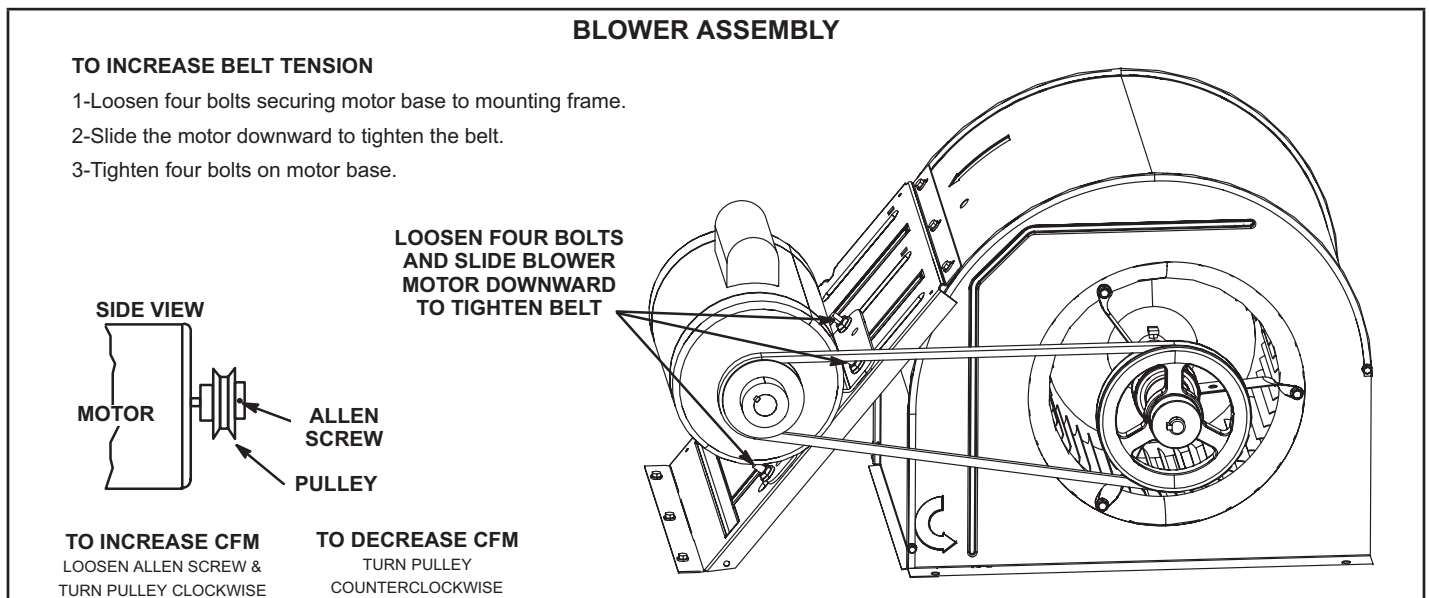

FIGURE 7
- 4 - The blower RPM can be adjusted at the motor pulley. Loosen Allen screw and turn adjustable pulley clockwise to increase CFM. Turn counterclockwise to decrease CFM. See figure 7. Do not exceed minimum and maximum number of pulley turns as shown in table 5.
- 1 - Loosen four bolts securing motor base to mounting frame. See figure 7.